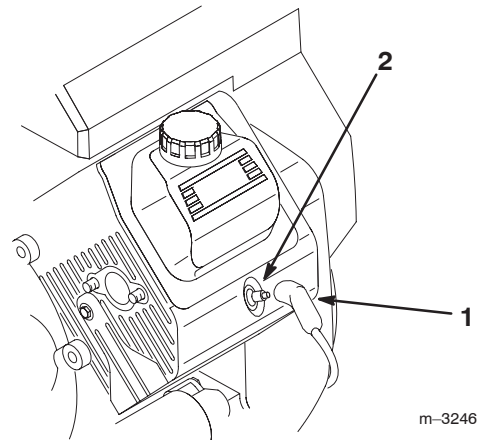

Figure 57
3. Pull the wires off the spark plugs (Fig. 57).
3. Push the wires onto the spark plugs (Fig. 57).